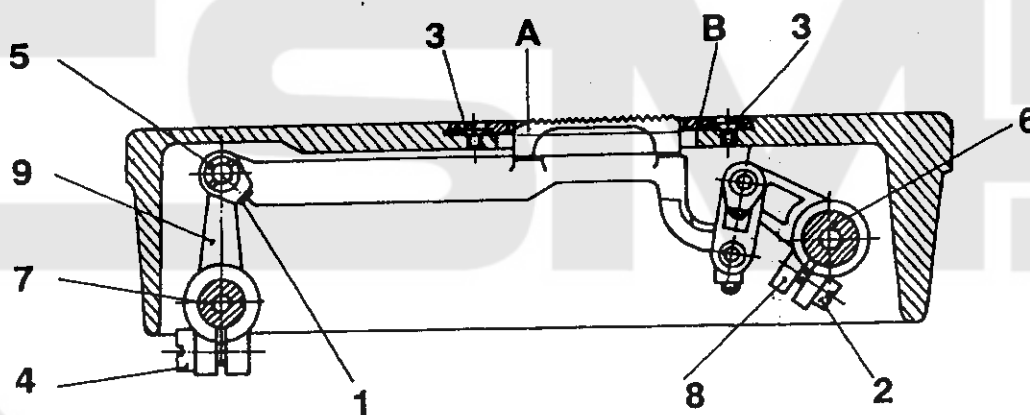

Figure 8
### 4. To adjust the feed-dog height above the throat plate (Fig. 8)
### 6. To adjust the throat plate (Fig. 8)
**11. To adjust the elliptical path of the feed-dog movement (Fig. 8)**